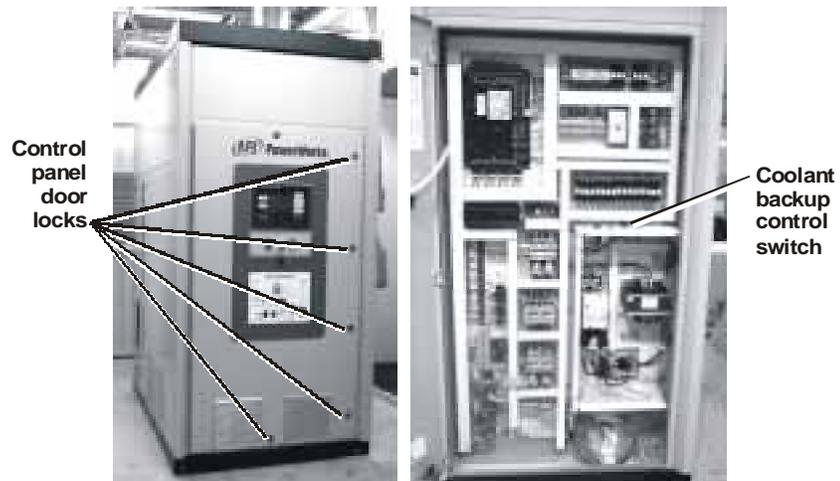

Figure 44. Disabling the coolant backup system
- 5 Using the enclosure key, unlock and open the control panel door (Figure 44). Turn the coolant backup control switch to DISABLE. Then close and lock the control panel door.
- 2 Using the enclosure key, unlock and open the control panel door. Turn the coolant backup control switch to ENABLE (see Figure 44 on page 74). Then close and lock the control panel door.